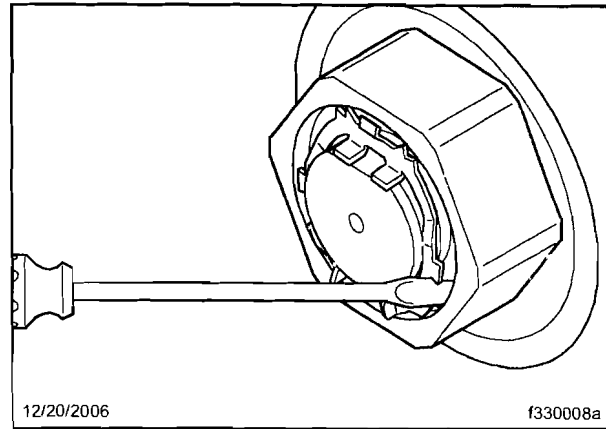

Fig. 6, Compressing the Lockring
26. Insert a screwdriver, or similar tool, in the undercut groove of the nut, between the keeper arms. See **Fig. 6**. Using the tool, compress the locking to lock in place.